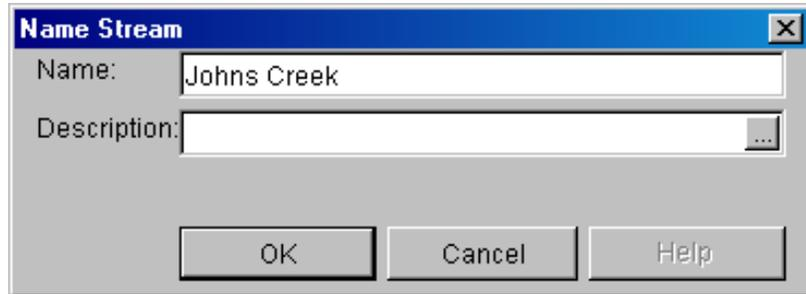

Figure 5.14 Name Stream Dialog Box
3. Enter a new **Name** and **Description** for the stream element in the **Name Stream** dialog box illustrated in Figure 5.14.